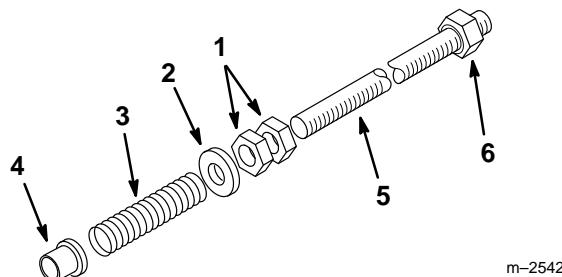

Figure 6
3. Thread two (2) 1/2" jam nuts approximately 9" (22.8 cm) up on each adjusting shaft (Fig. 6).
4. Slide a 1/2" washer, spring and bushing onto each adjusting shaft. Make sure to install the bushing with the flange end against the spring (Fig. 6).